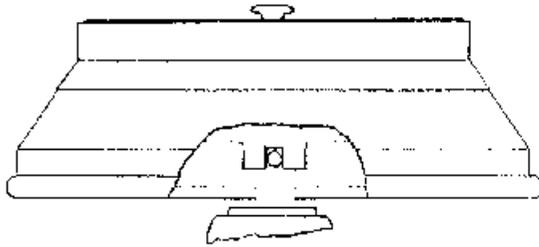
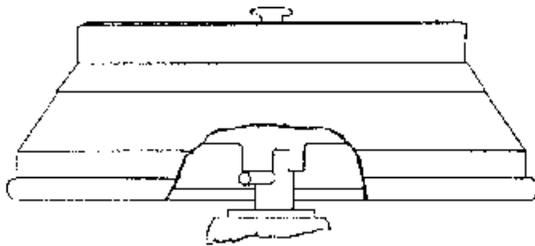

Figure 1: Motor shaft and rotor mounting hole – **right!**
Figure 2: Motor shaft and rotor mounting hole – **wrong!**
Remove the rotor screw from the motor shaft by turning it counter clockwise. Clean the motor shaft and the rotor mounting hole (see figure 1). Place the rotor on the motor shaft ensuring that the crosspin (figure 2) aligns correctly with the rotor slot (see figure 1).
*Note: Figures 1 and 2 can be found on the following pages.*